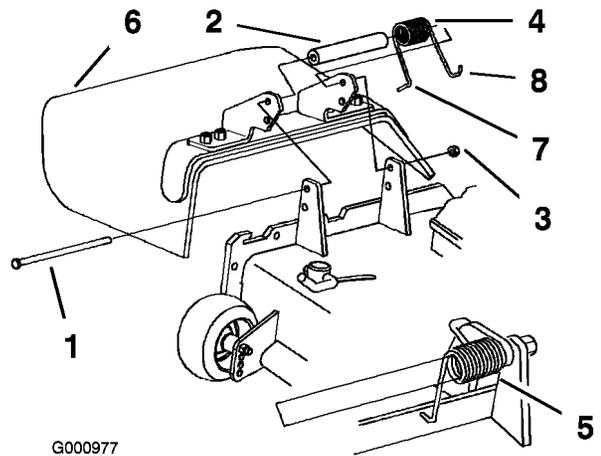

Figure 80
1. Remove the locknut, bolt, spring and spacer holding the deflector to the pivot brackets (Figure 80). Remove the damaged or worn grass deflector.
Note: Make sure the L end of the spring is installed behind the deck edge before installing the bolt as shown in Figure 80.
3. Install the bolt and nut. Place the **J** hook end of the spring around the grass deflector (Figure 80).